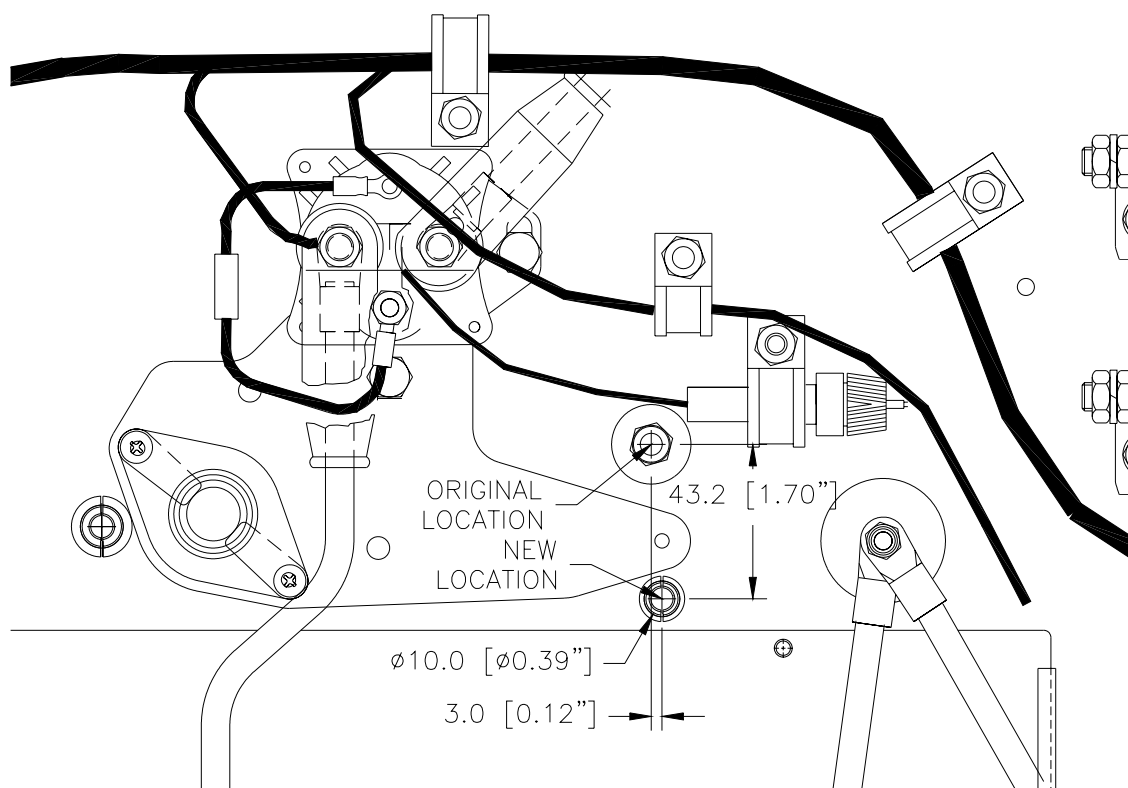

Figure 1 – Looking Aft on Firewall
- 10.2 Mark the location of the new firewall hole as shown in Fig. 1. Drill a pilot hole from the front side. Open the hole to the final diameter 10mm (0.40") using a step drill. Use care not to damage the surrounding firewall or equipment.